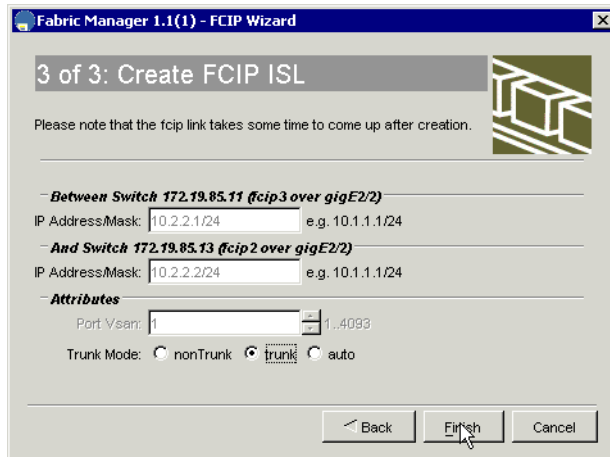

Figure 2-125 FCIP tunnel wizard 3
3. Choose the IP addresses for the gigabit ethernet interfaces, and click **Next**. You will see the third window of the wizard as shown in Figure 2-125.